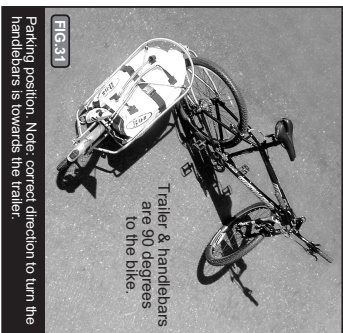

FIG. 31 Parking position. Note: correct direction to turn the handlebars is towards the trailer.
- **PARK MODE:** Fig. 31 shows the bike and trailer in "Park Mode". Turn the bike 90 degrees to the trailer with handlebars turned 90 degrees to the bike. Lower trailer frame (Fig. 1) and the trailer will stand up on its own. **NOTE:** This feature works best when the trailer is loaded and does not work on all bikes.